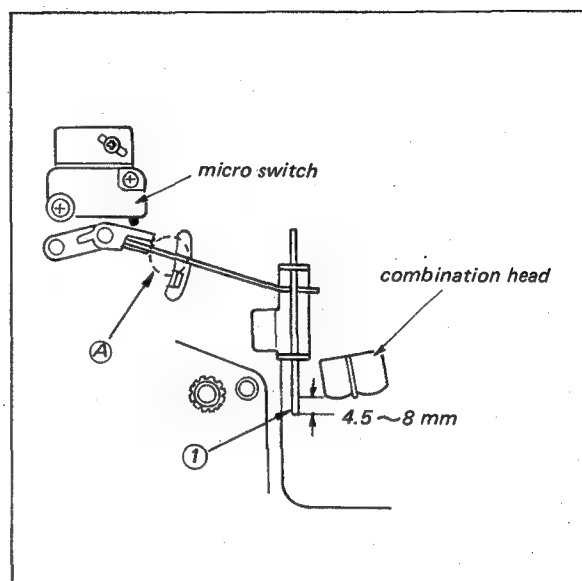

Fig. 4-28. Automatic shutoff actuator adjustment
3. Thread the tape on the VTR. Make sure that the motor is not shut off by a slight overshoot of the tape sensing wire ①. If the aforementioned conditions are not met, proceed to the following steps.
- a) Bend the ① section so that the top end of the actuator is clear of the tape's running surface by 4.5 to 8 mm in the FORWARD operating mode. See Fig. 4-28.